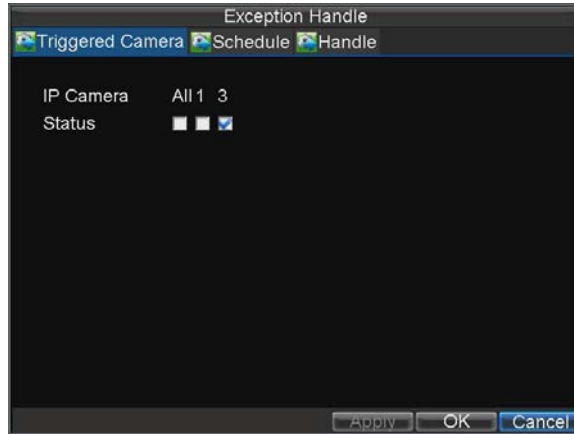

Figure8. Triggered Cameras Menu
6. Select cameras to trigger for recording when alarm occurs by checking the checkboxes under the desired cameras, as shown in Figure 8.